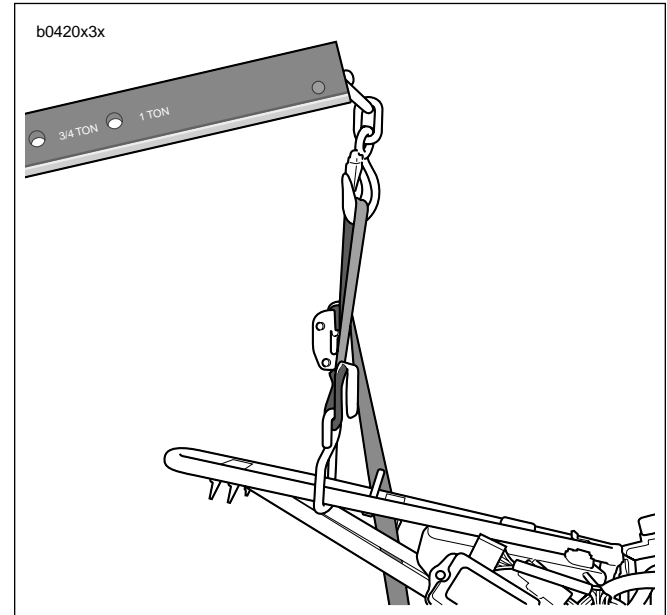

Figure 1. Floor Hoist
4. See Figure 1. Attach lifting straps to a floor hoist placed behind the lift. Connect lifting straps to motorcycle frame tubes as shown.